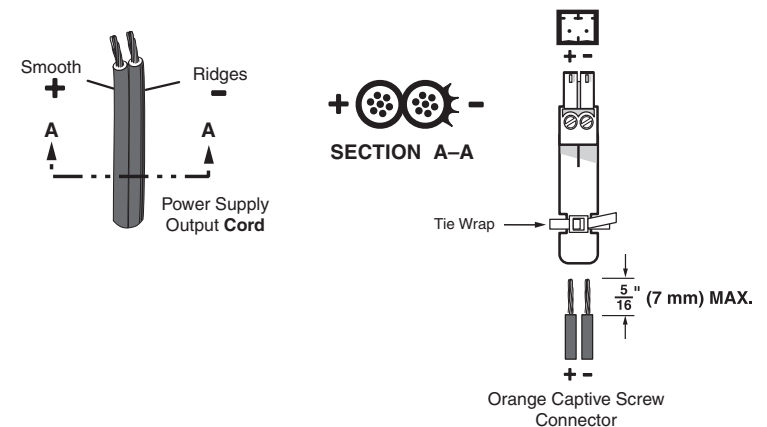

Figure 7 — Power connector wiring
2. Strip the jacket of the conductor wire to expose 5/16" (7 mm) of the wire (figure 7).